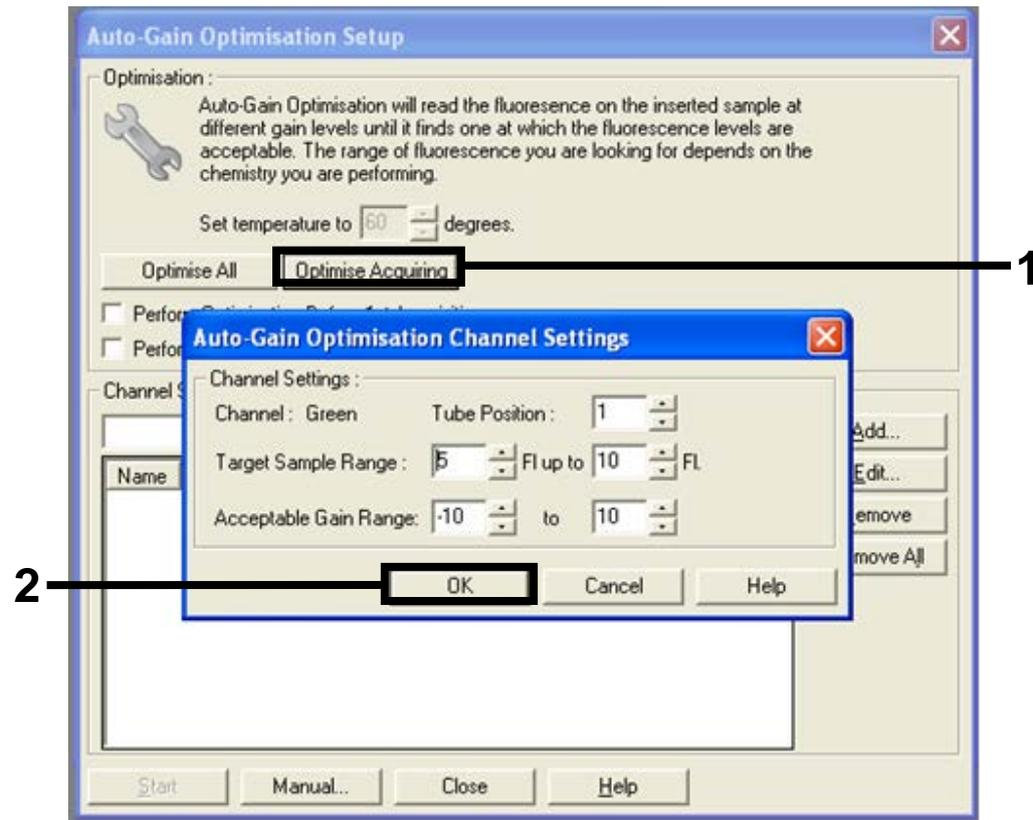

Figure 30. Auto-gain optimization for the Green channel (1 = "Optimise Acquiring" button; 2 = "OK" button).
13. Click the "Optimise Acquiring" button. Channel settings are displayed for each channel. Accept these default values by clicking "OK" for both channels (Figure 30).